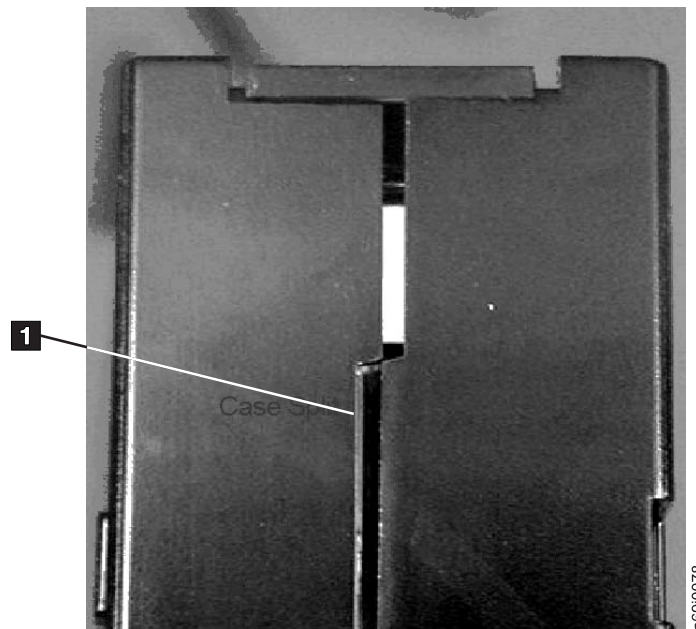
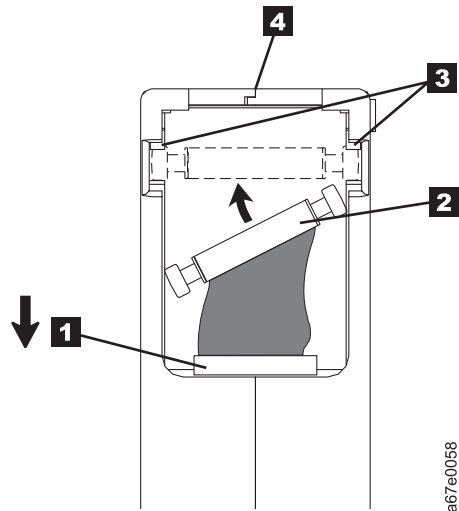

Figure 4-7. Checking for gaps in the seams of a cartridge
Figure 4-9. Placing the dislodged leader pin into the correct position. The cartridge door is open to show the leader pin.
- Inspect the rear of the cartridge (the part that loads first into the tape load compartment) and ensure that there are no gaps in the seam of the cartridge case (see **1** in Figure 4-7 and **4** in Figure 4-9 on page 4-12). If there are gaps in the seam (see Figure 4-7), the leader pin may be dislodged. Go to “Repositioning or Reattaching a Leader Pin” on page 4-10.
Example: Split Cartridge Case (see Figure 4-7 on page 4-9)
1. Slide open the cartridge door (**1** in Figure 4-9 on page 4-12) and locate the leader pin **2** (you may need to shake the cartridge gently to roll the pin toward the door).